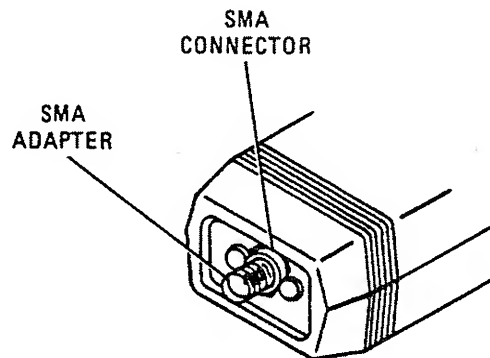

Figure 16. SMA Adapter Location
5-2. The SMA adapter located at the end of the probe is the only replaceable part on the HP 11941A (see figure 16). It protects the probe's integral connector from mechanical damage and should be left on. Should the end of the adapter become worn or damaged through use, it can be replaced using the procedure outlined in paragraph 5-3.
1. Use a 7/32-inch wrench to remove the old SMA adapter (see figure 16). Turn the adapter counterclockwise as viewed from the rear end of the probe.